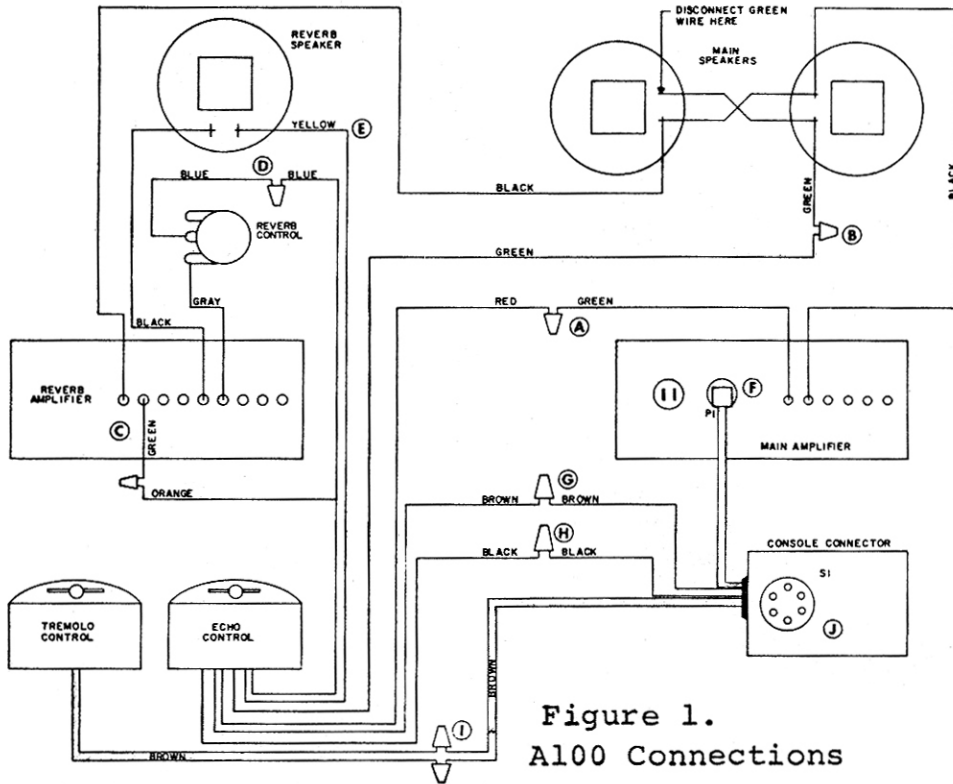
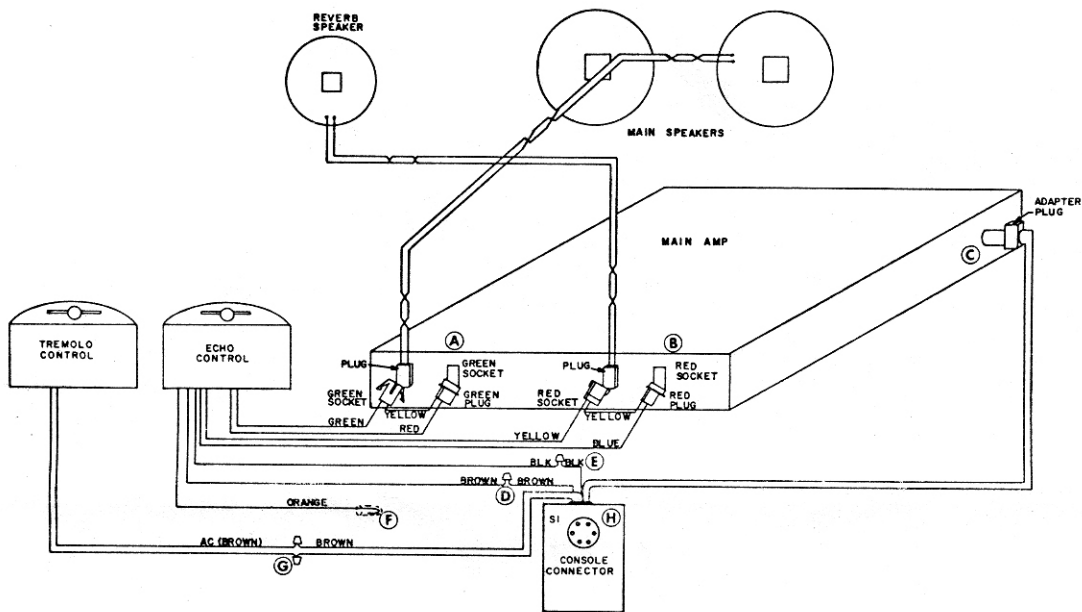

Figure 1.
Figure 3. E100 Connections
5. Cut the green lead which connects the amplifier output to the main speakers. (A & B on figures 1 & 2) Remove 3/8" of the insulation from each of the cut ends. Connect the amplifier end of this lead to the red lead from the echo control with a wire nut. Connect the speaker end of the lead to the green lead from the echo control. (B on figures 1 & 2)
6. Disconnect the reverberation input lead (green) from the main speakers. Strip and connect it to the orange lead from the echo control with the wire nut provided. (C on figures 1 & 2)
7. Detach the "hot" lead (gray or blue) from the reverberation speaker terminal, strip it about 3/8", and connect it to the blue lead from the echo control with the wire nut provided. (D on figures 1 & 2)
8. Solder the yellow echo control lead to the "hot" reverberation speaker terminal. (E on figures 1 & 2)
9. A100: Connect the plug from the console connector into the S-contact socket on the rear apron of the power amplifier chassis. (F on figure 1)
10. Connect the brown lead from the echo control to the short, single, brown lead* from the console connector, with the wire nut provided. (G on figures 1 & 2)
11. Connect the black lead from the echo control to the black lead from the console connector, with the wire nut provided. (H on figures 1 & 2)
12. Connect the brown double wire from the tremolo control to the short, double, brown wire from the console connector, with the wire nuts provided. ("I" on figures 1 & 2)
5. Remove the green speaker plug from the chassis socket on the left-hand apron of the power amplifier. (A on figure 3) Fit this plug into the green interceptor socket on the echo switch cable, and fit the interceptor plug into the chassis socket.
6. Remove the red speaker plug from the chassis socket on the left apron of the power amplifier. (B on figure 3) Fit this plug into the red interceptor socket on the echo switch cable; then connect the red interceptor plug to the red chassis socket. Fold back the orange wire attached to the echo switch and insulate it with electrical tape. It is not used in this installation.
7. Connect the plug from the console connector to the 062091 adapter and insert the adapter into the 7-contact socket on the rear apron of the amplifier chassis. (C on figure 3) B. Connect the brown lead from the echo control to the brown lead from the console connector with the wire nut provided. (G on figures 1 & 2)
9. Connect the black lead from the echo control to the black lead from the console connector with the wire nut provided. (H on figures 1 & 2)
10. Connect the brown wire from the tremolo control to the short wires on the console connector with the wire nuts provided. ("I" on figures 1 & 2)